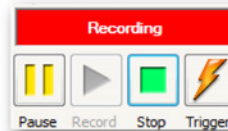
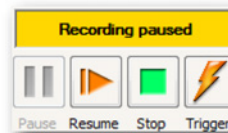

Figure 5.5: Acquisition control - Record selected
Figure 5.6: Acquisition control - no data in memory or disk
- When an acquisition is active, the button will update to **Pause** once **Record** is selected (see Figure 5.5). Using the control now it will place the recorder in a hold mode: although the recorder is digitizing, no data is stored in memory or disk. At this point the **Record** button will change into **Resume** (see Figure 5.6), when **Resume** is selected, the current recording continues, when **Stop** is selected, the recording is finished.